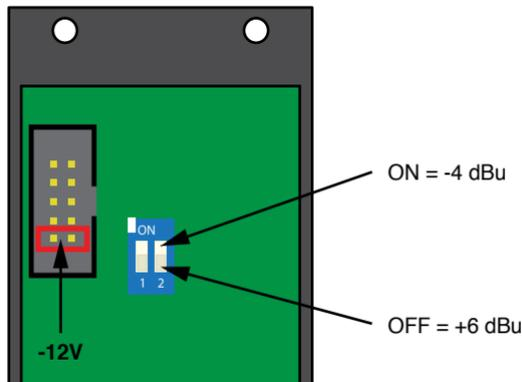

Figure 1: twinOUT rear with DIP switches and system bus connector
2. Connect the supplied ribbon cable to the module's rear (see *"Figure 1: twinOUT rear with DIP switches and system bus connector"* on page 15).
**LINE OUT** The stereo output (3.5-mm-jack) allows connecting a headphone or can be used as a line output. When using a low-impedance-headphone it is recommended to set the circuit boards' DIP switch to **ON** (see *“Figure 1: twinOUT rear with DIP switches and system bus connector”* on page 15). When using a higher-impedance-headphone (300 ohms or higher or the use as line output, set the DIP switch to **OFF**.